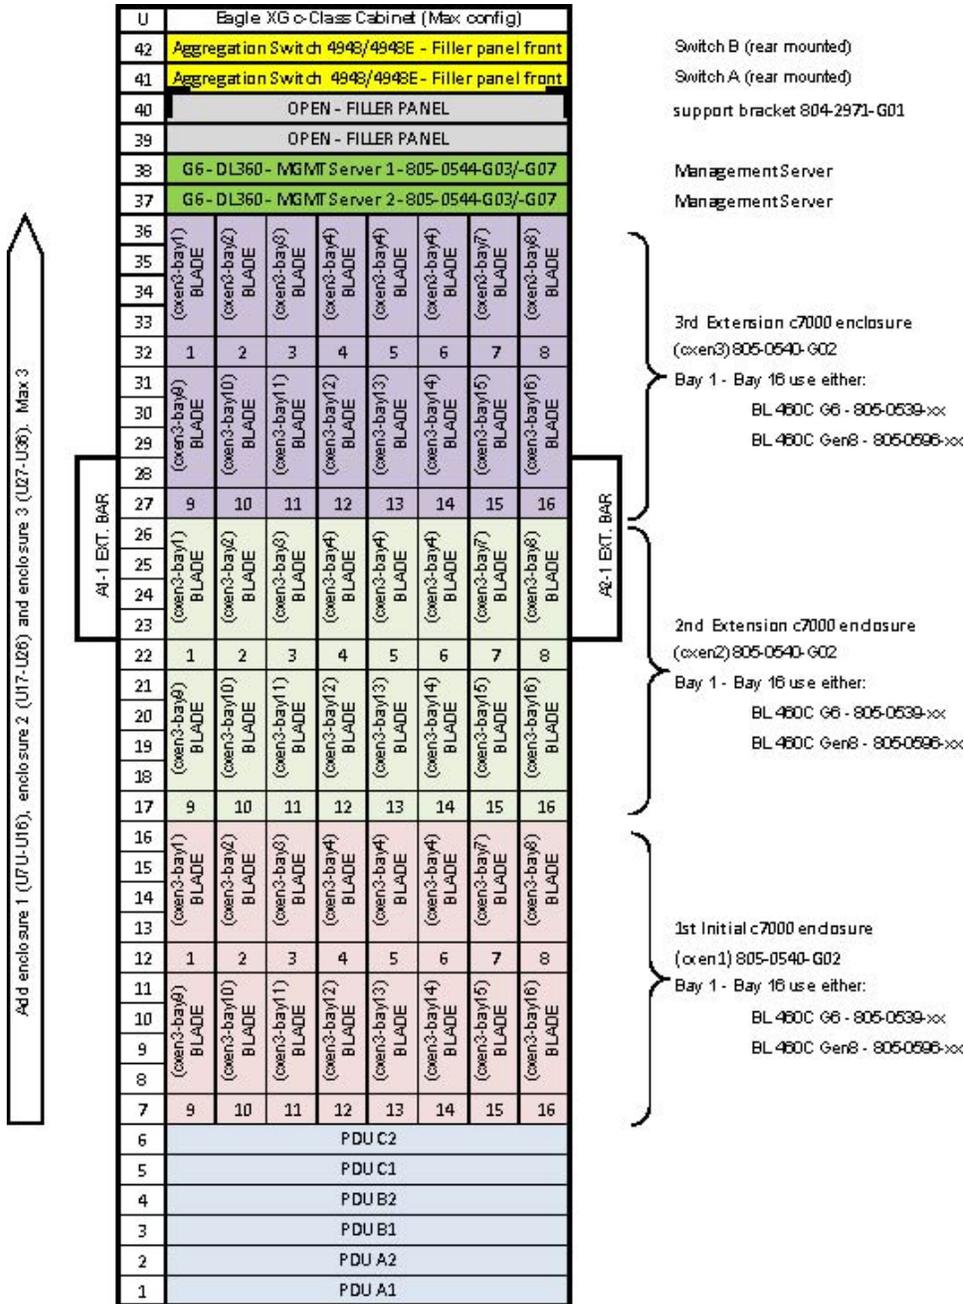

Figure 1: Example of an AC cabinet with Cisco 4948-4948E
- *Figure 1: Example of an AC cabinet with Cisco 4948-4948E*